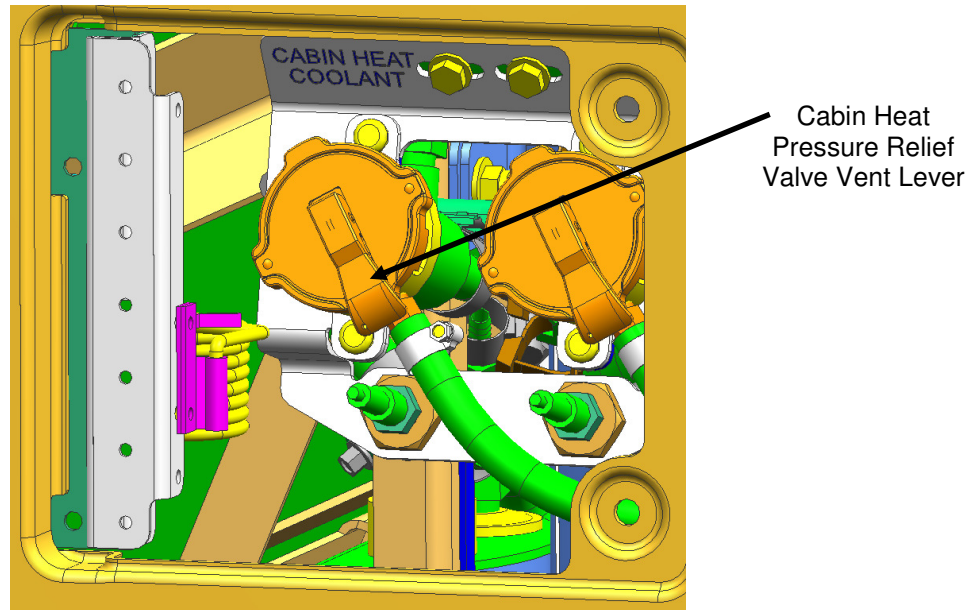

Figure 1: Cabin Heat Surge Tank Pressure Relief
3. Relieve the cooling system pressure by lifting the vent lever on the cabin heat surge tank pressure relief cap. See Figure 1.